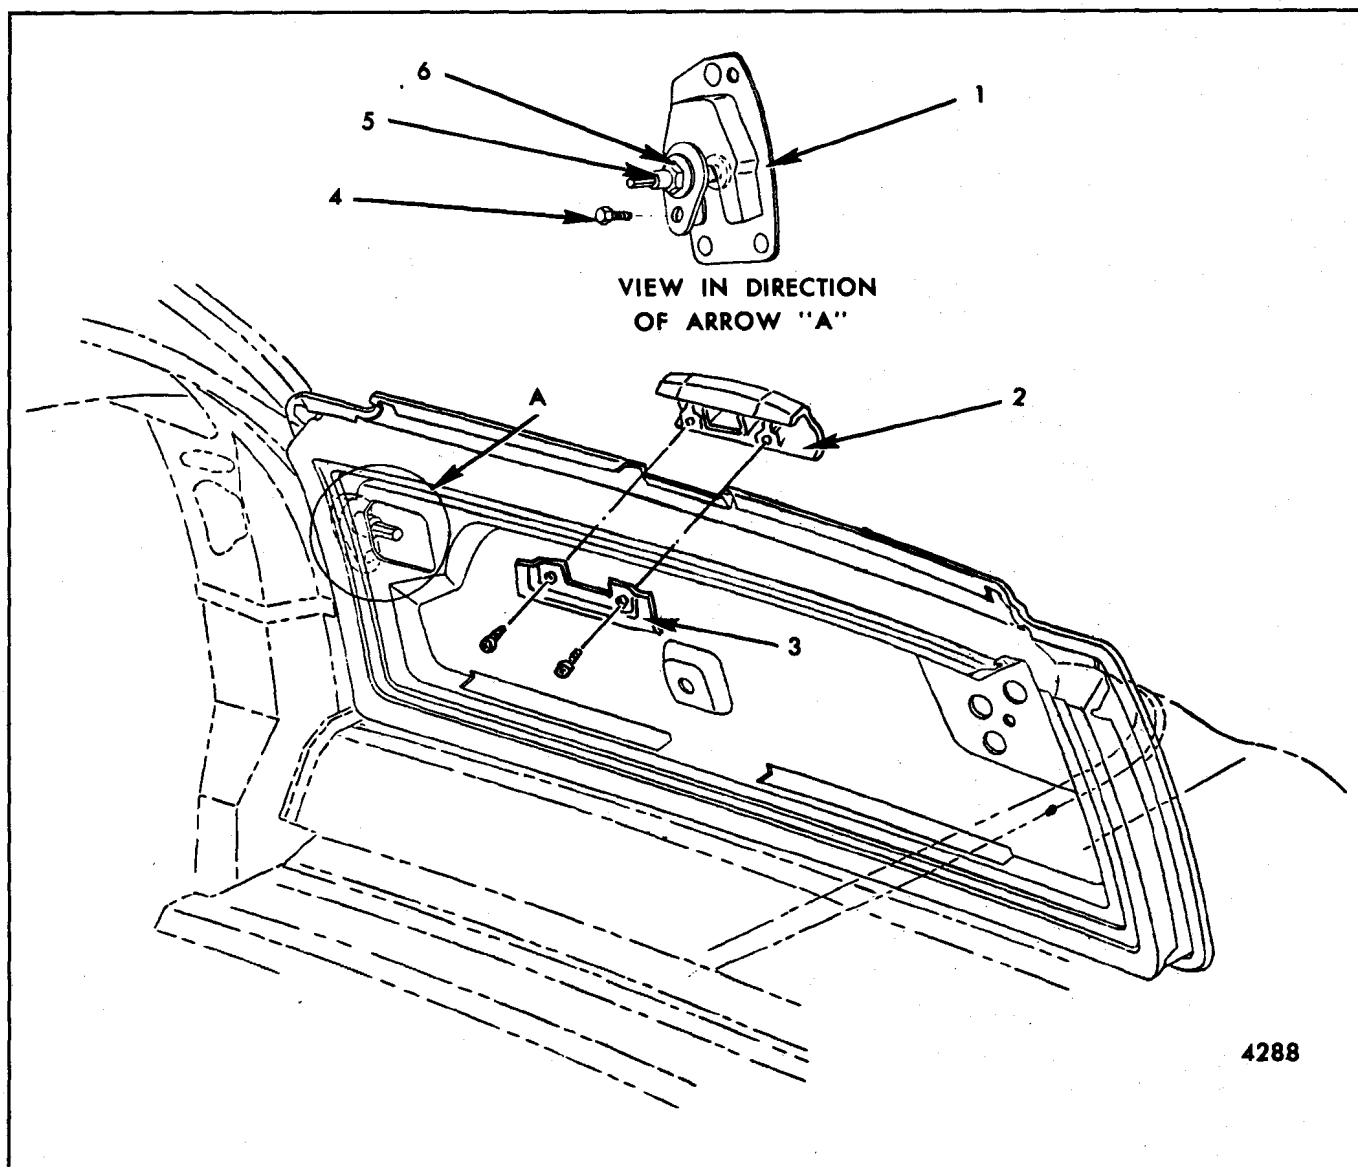

Fig. 9-24-Tail Gate Lock Striker and Grip Handle Assemblies
4. Through access hole in tail gate inner panel, remove striker assembly bolt and striker pin jamb nut and washer (Fig. 9-24).
1. Engage hex end of striker with a suitable wrench and loosen striker pin jamb nut (Fig. 9-24).
1. With tail gate fully closed loosen striker pin jamb nut as previously explained (Fig. 9-24).
1. Remove screws securing tail gate outer panel grip handle and cover. Remove handle (Fig. 9-24).
1. With tail gate fully closed remove inner cover panel for access to striker attaching provisions (Fig. 9-24).
- A. Gain access to striker assembly and loosen striker pin jamb nut and striker assembly bolt (Fig. 9-24).